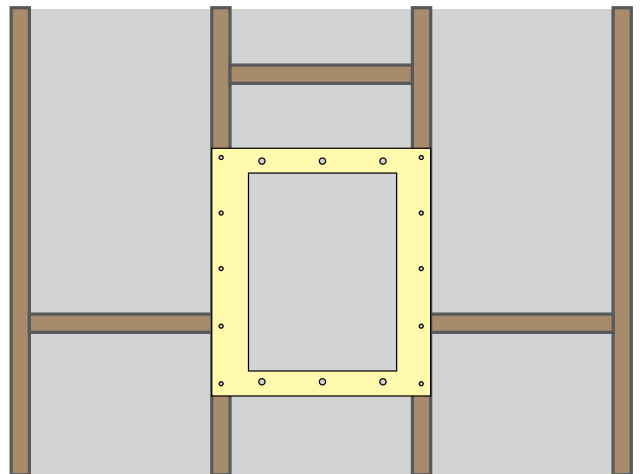

Figure 1.
2. Attach the bracket to the wall studs or ceiling joists using the (5) pre-drilled countersunk holes positioned along the outside edge of the bracket. See Figure 1.